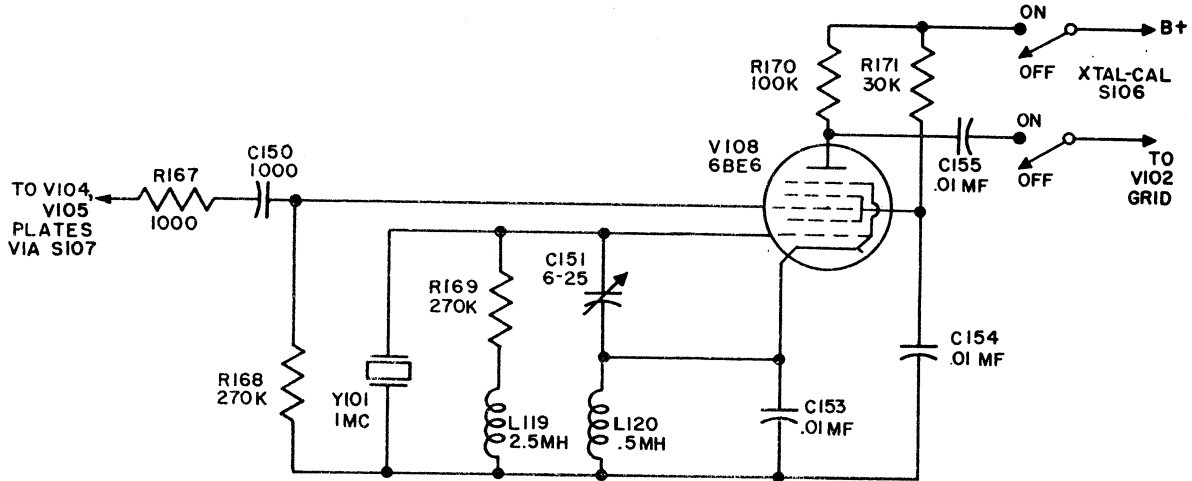

Figure 2-9. Schematic Diagram of Crystal Calibrator
(See figure 2-9).
b. CIRCUIT ANALYSIS—(see figure 2-9). The crystal calibrator consists of a 1 mc crystal (Y-101) and an oscillator-mixer circuit utilizing a type 6BE6 pentagrid converter (V-108). A portion of the RF signal is fed from the plates of the buffer-amplifier stage to the mixer grid of V-108 via isolation resistors R-167, R-175 and coupling capacitor C-150. The oscillator section of V-108 is analogous to a Colpitts oscillator with 1 mc crystal Y-101 serving as the tuned circuit and the screen grid acting as the plate. Grid resistor R-169 is the grid leak DC return for the oscillator grid. Trimmer C-151 is provided for adjusting the 1 mc frequency of the oscillator against a primary standard. RF chokes I-119 and L-120 serve to increase the harmonic generation of the crystal oscillator and thereby extend the useful range of the calibrator to 50 mc. When XTAL-CAL switch S-106 is in the ON position, B+ is fed to the plate via plate load R-170 and to the screen via load resistor R-171. When calibrating, the output of V-108 will be the audio beat difference between the signal generator frequency and the crystal harmonic frequency. This audio beat is fed to the grid of V-102B via switch S-106. V-102B amplifies this beat and the resultant signal is fed to the EXT MOD IN jack J-103 when MOD SELECTOR switch S-103 is in the XTAL (EXT) position. Connector, Adapter UG-684/U is provided to adapt BNC type jack J-103 to a standard phone jack when monitoring for zero beat. Crystal earphones should be used when calibrating since the impedance at J-103 is high.